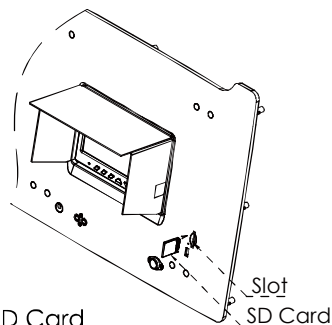

Figure 13: Install SD Card
5. Install SD Card (Figure 13.)